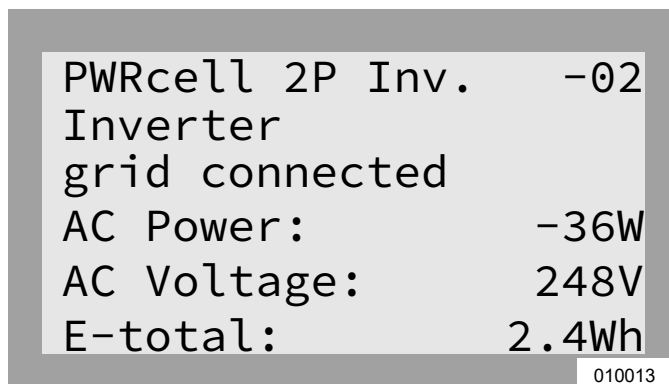

Figure 6-10. Inverter Enabled (4 of 4)
- See Figure 6-10. The inverter is enabled. It will create voltage at the DC terminals and begin communicating with connected REbus devices.